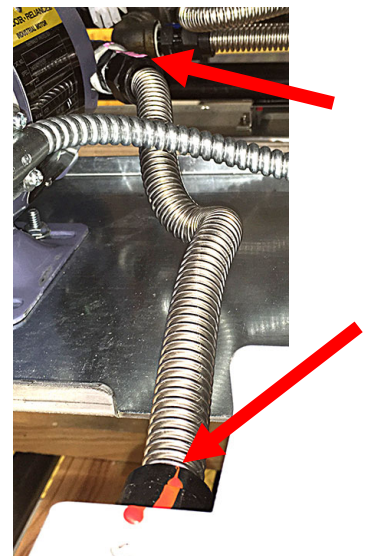

Figure 2
5. Using the supplied 1-1/16 crows foot wrench to remove the flex line between the pump and female pick up bracket (see Figure 2).